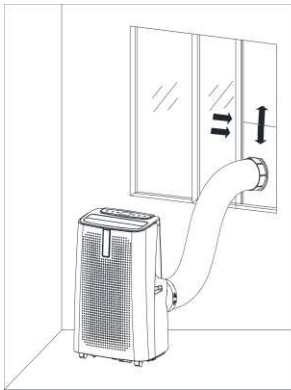
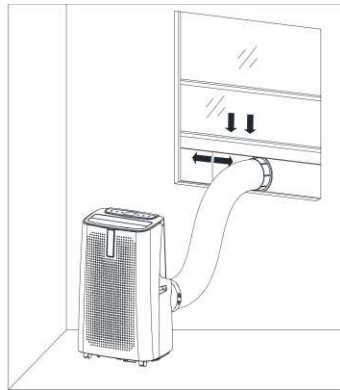

Figure 5.
Figure 6.
2) Elongate the heat pipe and snap the flat end of the heat pipe joints into the elliptical hole of the window sealing plate assembly (as shown in Figure 5 and Figure 6) .